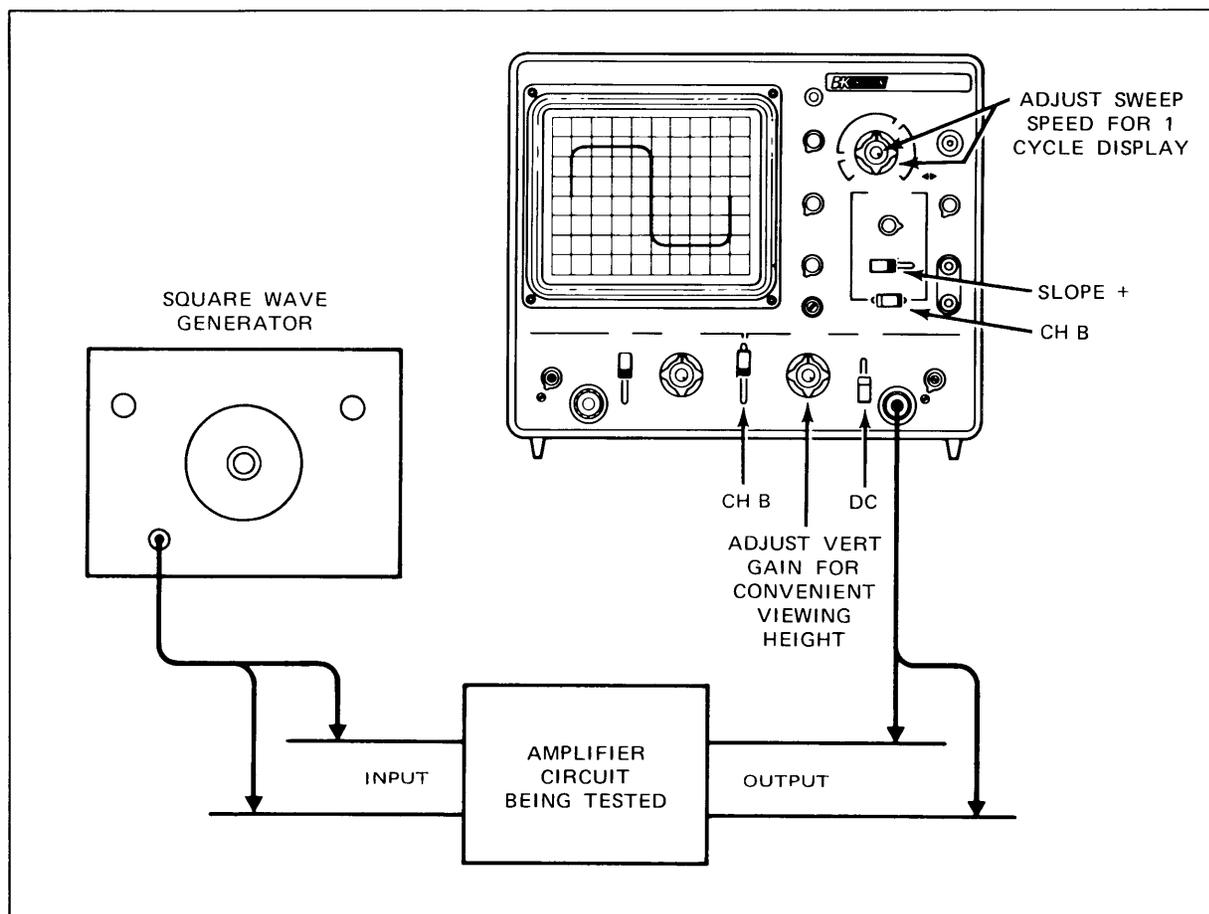

Fig. 43. Equipment set-up for square wave testing of amplifiers.
**TESTING PROCEDURE (Refer to Fig. 43)**